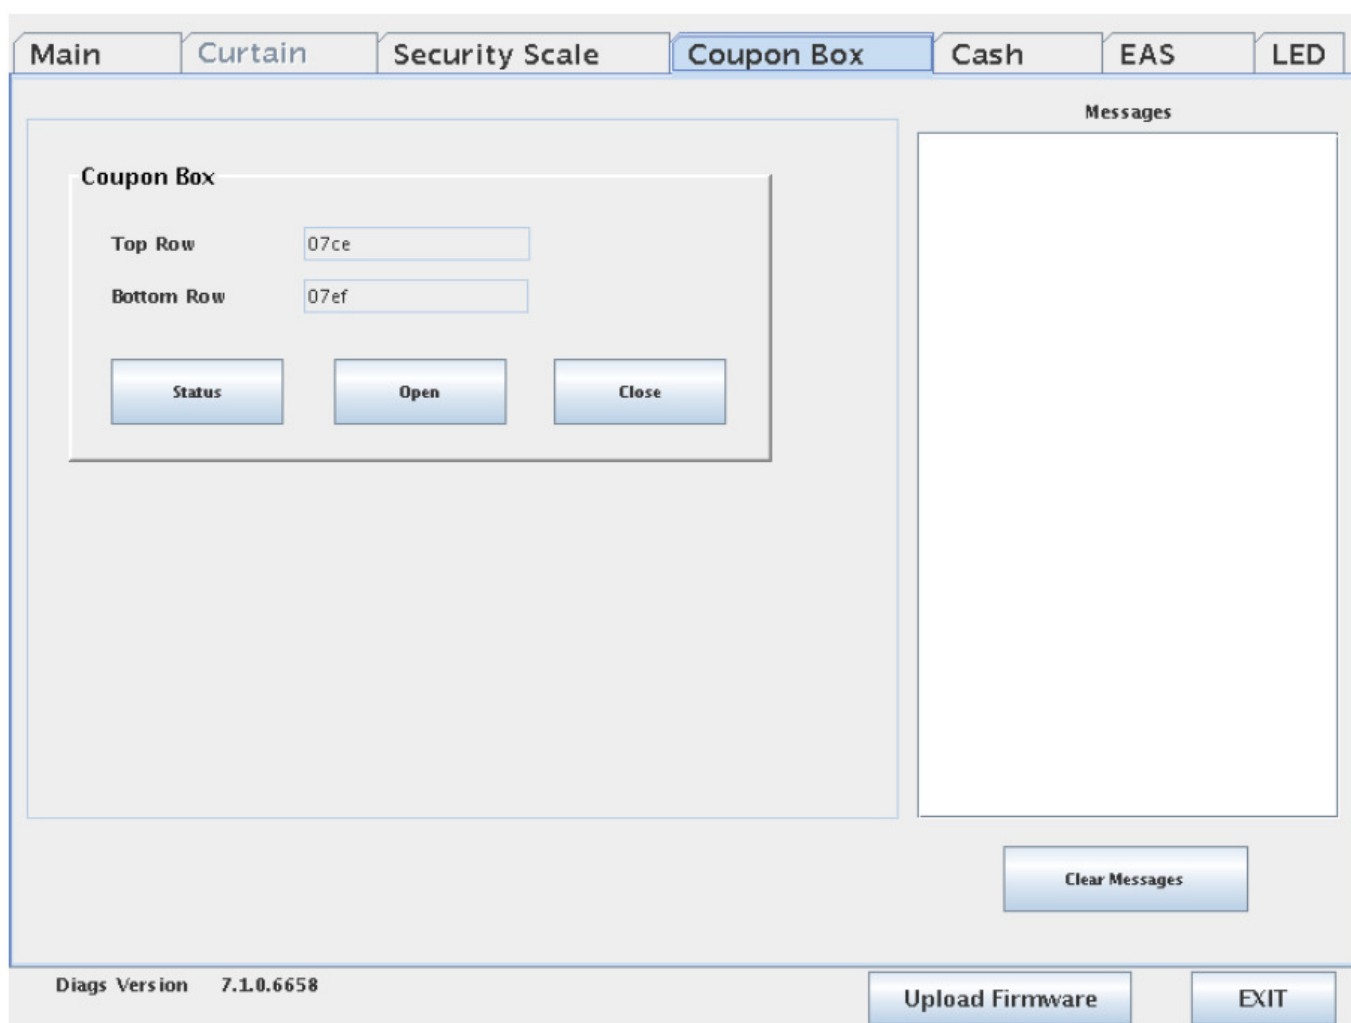

Figure 48. Coupon box panel view
1. Open lane diagnostics and touch the **Coupon Box** tab (see Figure 48).